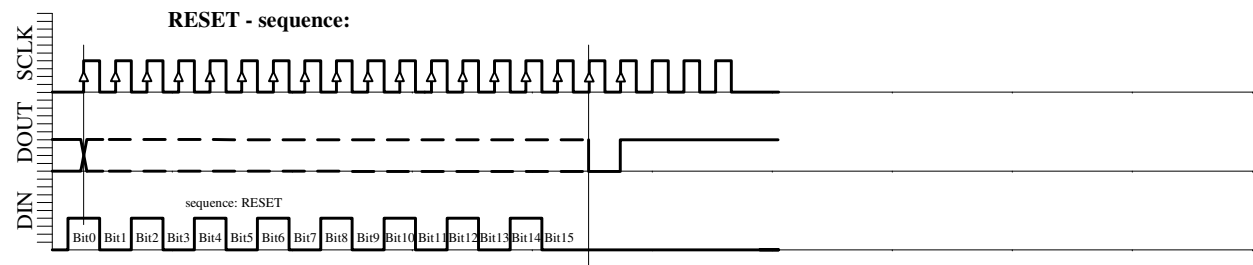

Fig. 6e: Reset sequence (21-Bit)
- RESET sequence (Figure 6e)
The RESET-sequence is special as its unique pattern is recognized by the module in any state. By consequence it can be used to restart if synchronization between the microcontroller and the MS5536C has been lost. This sequence is 21-Bit long. The DOUT signal might change during that sequence (see Fig. 6e). It is recommended to send the RESET sequence before first conversion sequence to avoid hanging up the protocol permanently in case of electrical interference.